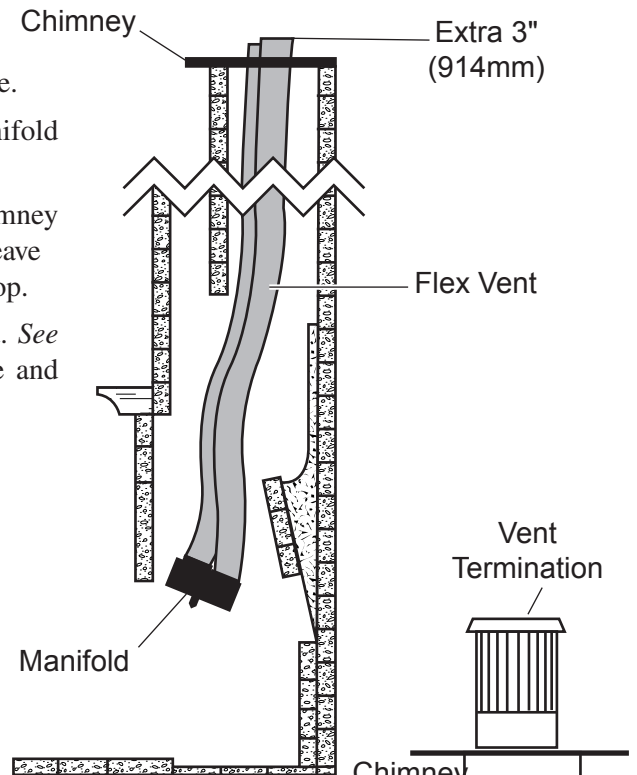

Figure 8 - Attaching Flex Vent to Manifold
4. Attach flex vent to manifold. See Figure 8. Seal with silicone and attach with screws.